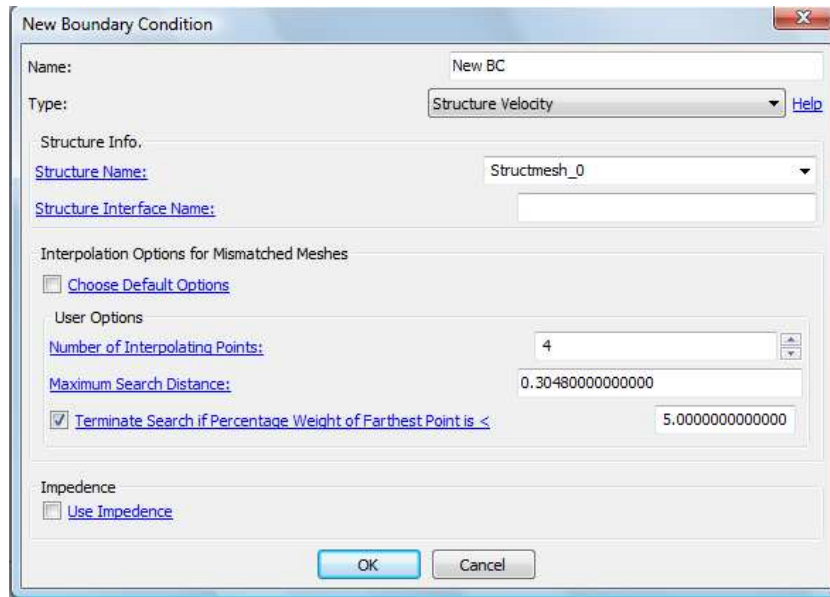

Figure 6.13: Structure Velocity BC.
Various options that control the number of interpolation points and the search criteria are discussed below. Figure 6.13.
Structure velocity Boundary Condition is applied when the frequency response data is known from the FEA analysis of the structure. Refer to Section 5.1.2 for details on how to load frequency response data. (Figure 6.13.)
Select the structure name from which the Boundary Conditions are applied. (Figure 6.13.)
Select the structure interface from which the Boundary Conditions are applied. A structure interface is a group of faces (of FEA elements) in contact with the fluid medium. Each structure interface is uniquely identified by the structural mesh id, element id, and the local face number on the element. If this field is left blank, the structure velocity is applied directly from the structure. (Figure 6.13.)
(Z) is defined by selecting any of the frequency dependent types: *Constant*, *Table*, or *Script*. (Figure 6.13.)